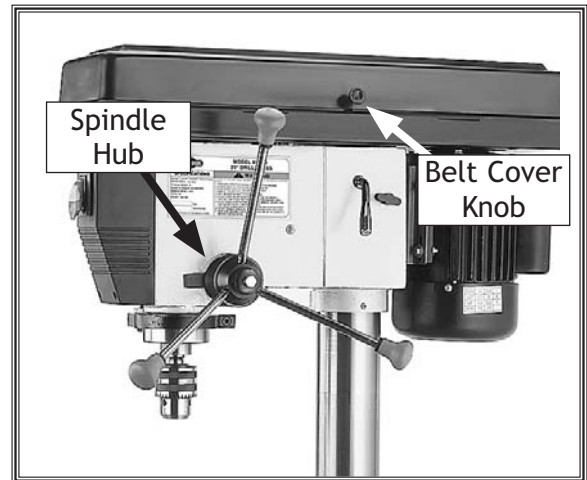

Figure 20. Downfeed handles and belt cover knob installed.
1. Thread the handles into the pinion hub, as shown in **Figure 20**, and tighten.
2. Remove the screw that fastens the belt cover in place and install the belt cover knob in its place (see **Figure 20** for location).